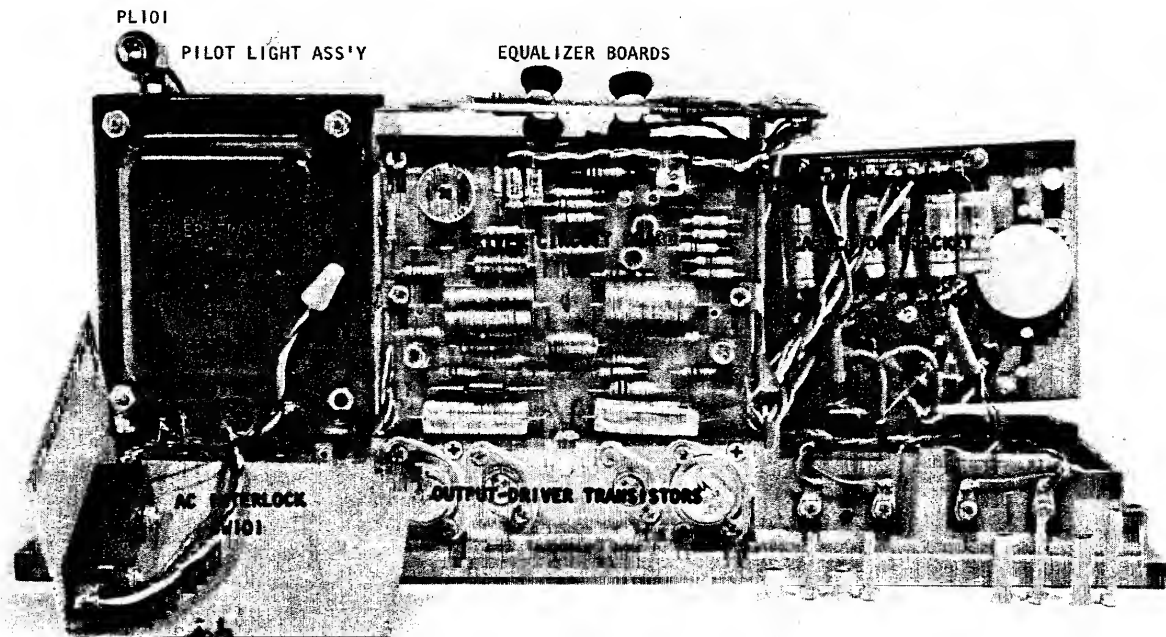

Figure 4-3 SE400S INTERLOCK REMOVAL
Step 1. Remove two phillips machine head screws and then lift interlock plate away from casting. (figure 4-3)
Step 2. Lift capacitor bracket and place in position illustrated in fig. 4-3.